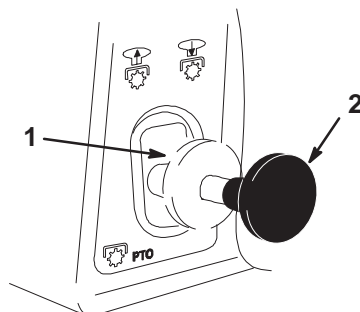

Figure 5
- Pull the power take off (PTO) to **on** (Fig. 5).
- Push the power take off (PTO) to off (Fig. 5).